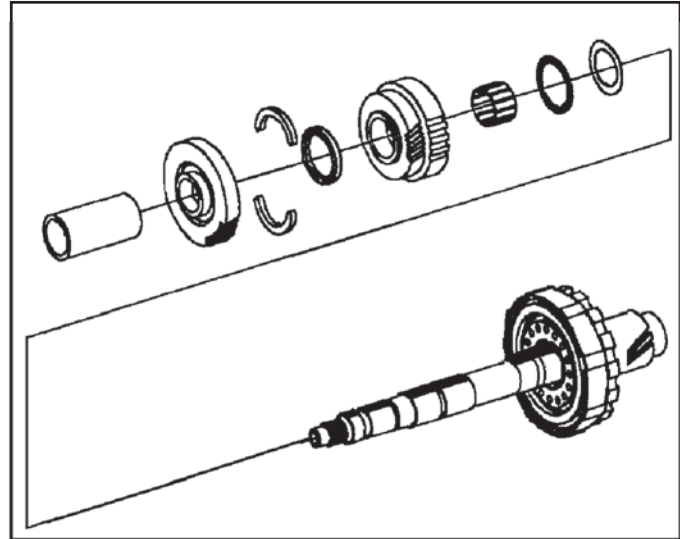

Figure 92
7. Remove the 2nd/3rd driven gear spacer collar (See Figure 92).
8. Remove the 3rd driven gear. It may be necessary to use a gear puller. Inspect the teeth and bearing race for wear, chipping or pitting (See Figure 92).
9. Remove the 3rd driven gear split washers and the 3rd/4th gear double sided needle bearing (See Figure 92).
10. Lift off the 4th driven gear, the 4th driven gear caged bearing, the 4th driven gear double sided needle bearing washer and the solid toothed thrust washer. Inspect all parts for wear and replace if necessary (See Figure 92).